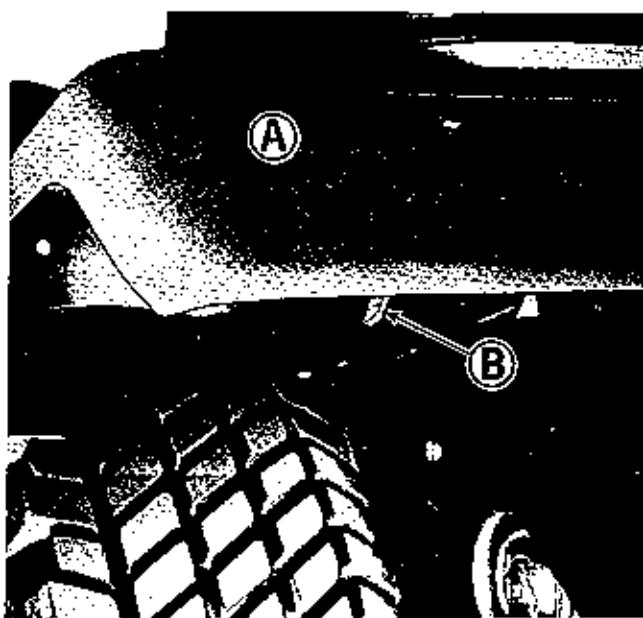

Figure 9. Seat deck release at front of seat deck.
See figure 9. The tractor seat deck (A) is hinged at the back. To raise the seat deck, reach under it from each side and pull the two locking levers (B) to the outside. As you hold the